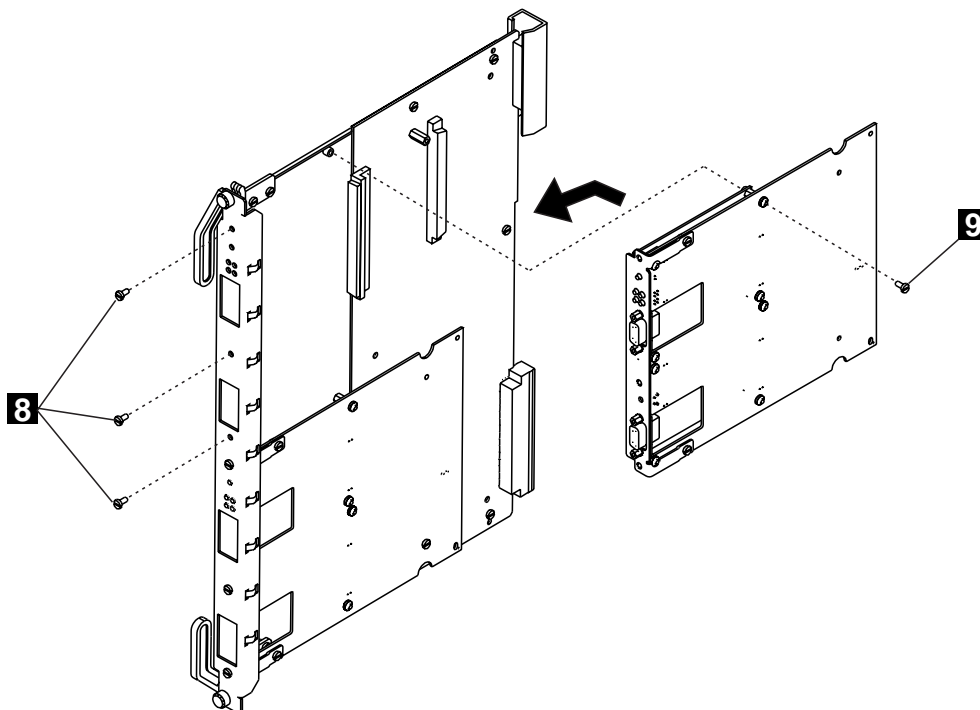

Figure 11. Reattaching the Motherboard
- **10** Reattach the motherboard to the module using the four screws (**8** and **9** in Figure 11) that originally held the motherboard.